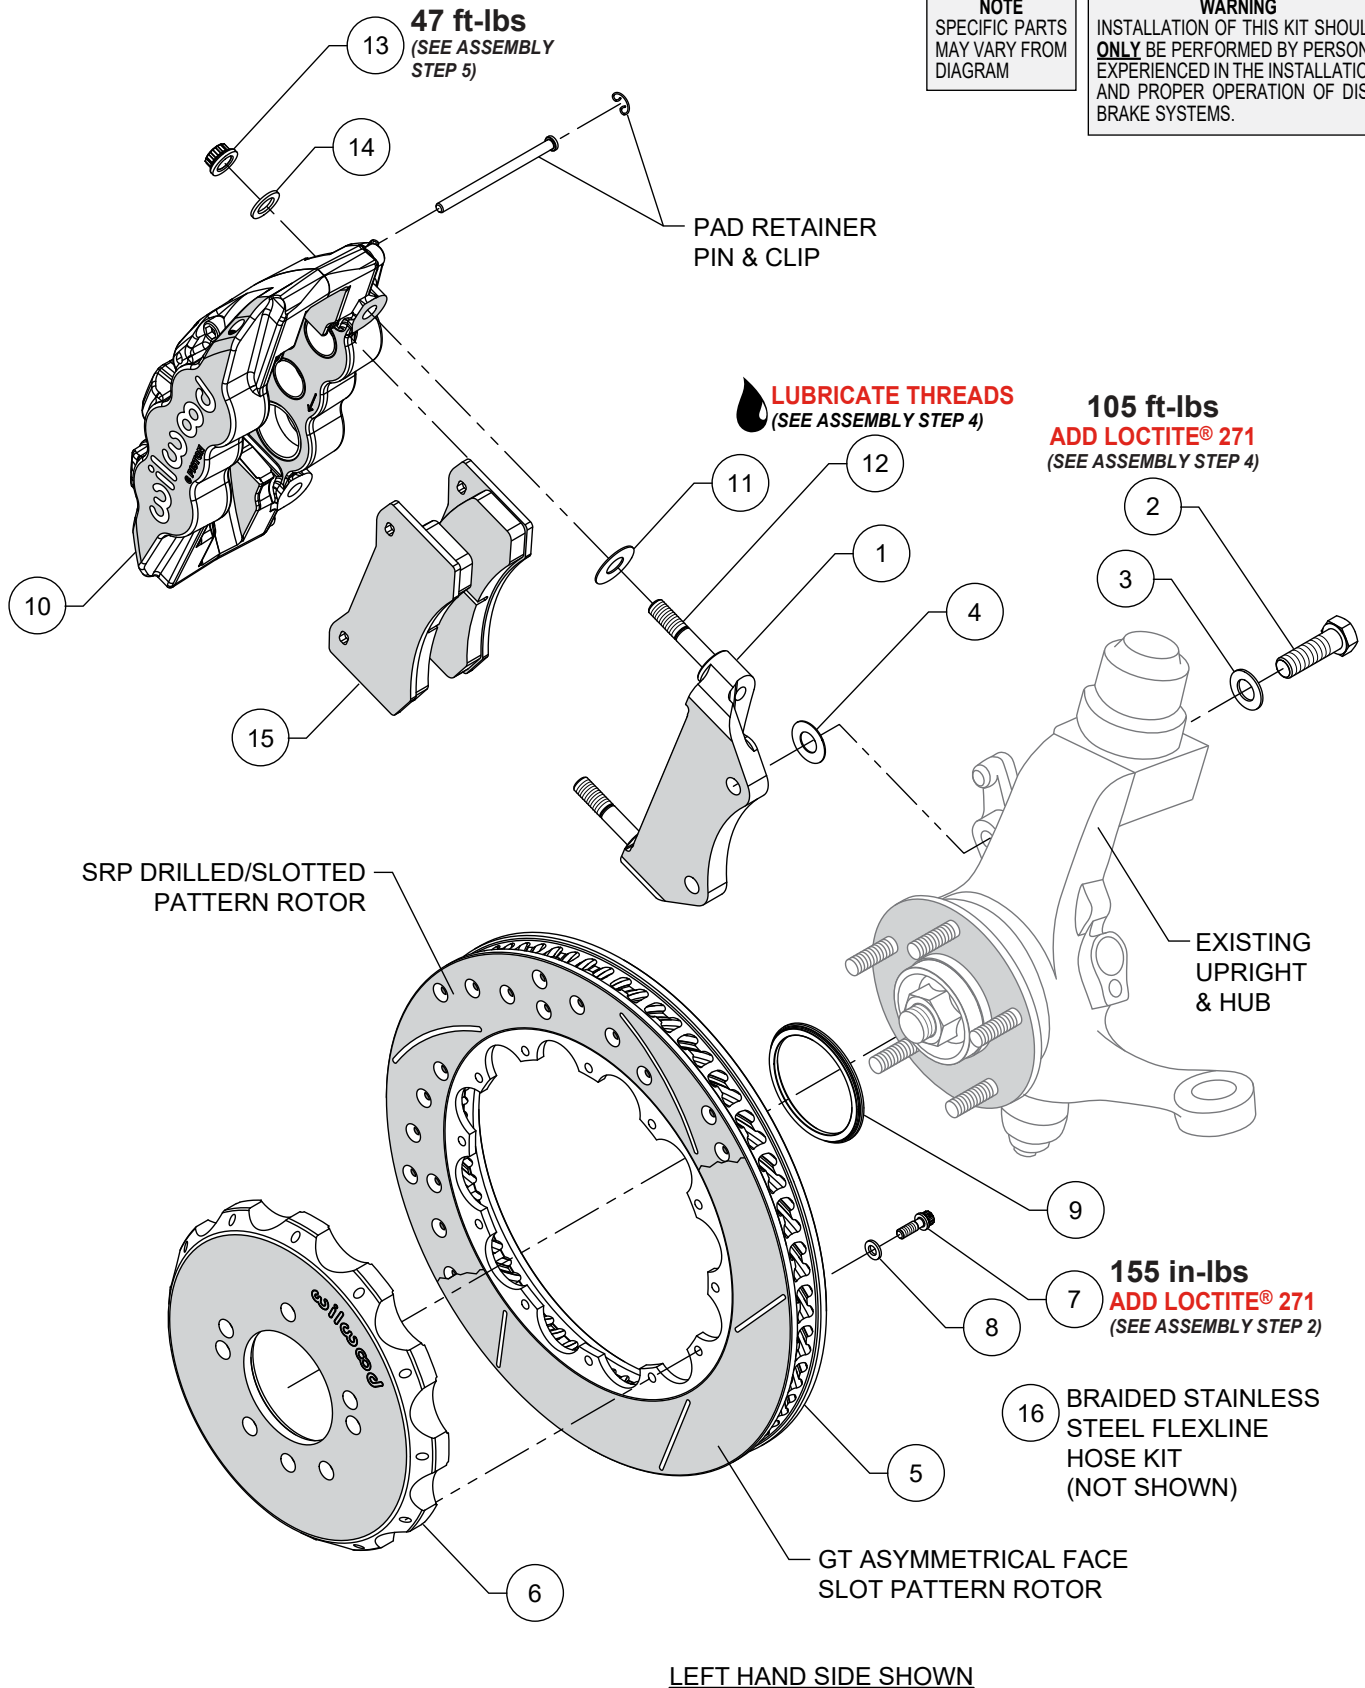
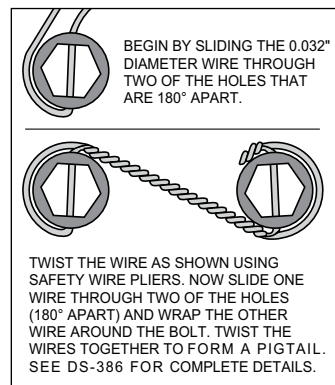

Figure 1. Typical Installation Configuration
Figure 2
**NOTE:** Numbers in parenthesis refer to the parts list and Figure 1 on the preceding pages.
**STEP 1** The caliper mount bracket (1) should initially be installed with clean, dry threads on the mounting bolts. Orient the bracket as shown in Figure 1 and Photo 1, and install using mounting bolts (2) and washers (3). Initially place one .029" thick shim (4) on each bolt (2) between the bracket and upright, Figure 1. Temporarily tighten the mounting bolts. **NOTE:** *The bracket must fit squarely against the mount bosses on the upright.* Inspect for interference from casting irregularities, machining ridges, burrs, etc. Later, after the caliper alignment has been checked, the mount bolts will be secured using red *Loctite*® 271.
**STEP 2** Orient the rotor (5) and the hat (6) as shown in Figure 1 and Photo 2. Attach rotor to hat using bolts (7) and washers (8). Apply red *Loctite*® 271 to the bolt threads and torque to value shown in Figure 1 using a criss-cross pattern. For an added measure of security, the bolts may be safety wired using standard 0.032 inch diameter stainless steel safety wire as shown in Figure 2. Please refer to Wilwood's data sheet DS-386 (available at [www.wilwood.com/Pdf/DataSheets/ds386.pdf](http://www.wilwood.com/Pdf/DataSheets/ds386.pdf)) for complete safety wire installation instructions.
**STEP 3** Install the rotor registration adapter (9) onto the register of the hub assembly with the smaller O.D. facing outward, Photo 3. Slide the hat/rotor assembly (5 and 6) onto the hub assembly. **NOTE:** *The hat must fit flush against the hub flange or excessive rotor run out may result.* Install three lug nuts (finger tight) to keep the hat/rotor assembly in place while continuing with the installation, Photo 4.
**STEP 4** **NOTE:** *This kit contains distinct right and left hand calipers that must be mounted in a specific direction, as described below.* Lubricate the caliper mounting studs (12) with lightweight oil. Initially place one .030" thick shim (11) on each stud between the caliper and the bracket, as shown in Figure 1 and Photo 5. Mount the caliper (10) onto the bracket (1) using lock nuts (13) and washers (14), Figure 1. Temporarily tighten the lock nuts. Ensure that the caliper is mounted so the largest pistons are at the rotor exit end of the caliper, in relation to the forward rotation of the rotor. View the rotor through the top opening of the caliper. The rotor should be centered in the caliper, Photo 6. If not, adjust by adding or subtracting shims (4) between the bracket and the spindle. Always use the same amount of shims on each of the two mounting bolts. Once the caliper alignment is correct, remove the bracket mounting bolts (2) one at a time, apply red *Loctite*® 271 to the threads, and torque to value shown in Figure 1.
**STEP 5** Remove the caliper from the bracket, then remove the caliper pad retainer clips and pins. Insert the brake pads (15) into the caliper from the bottom side, with the friction material facing the rotor, as shown in Photo 7. Mount the caliper and check that the top of the brake pad is flush with the outside diameter of the rotor. If not, adjust by adding or subtracting shims (11) between the caliper and the bracket. After the caliper pad height is set, reinstall the pad retaining pins and clips, Photo 8. Torque the caliper lock nuts (13) to value shown in Figure 1.